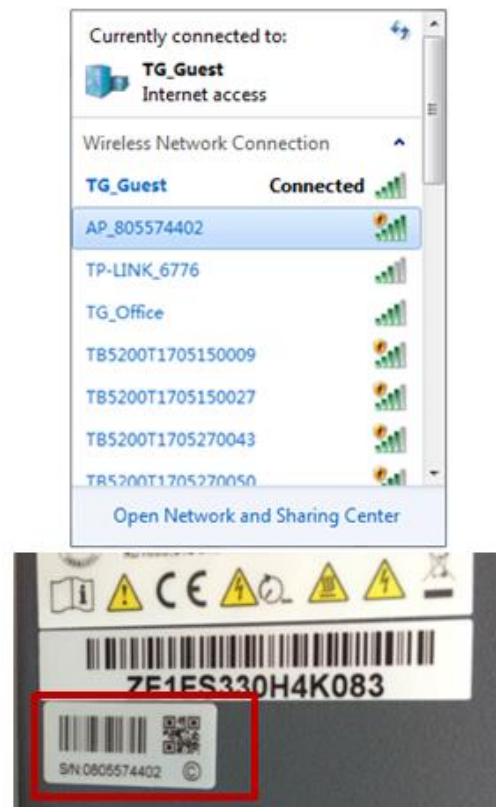

Figure 1 WLAN Connection and Serial Number (SN)
- 1 How to identify Inverter SSID in WLAN: [AP_serial number (SN)] (e.g. fig. 1, 0805574402), See SN on the label on the side of the inverter